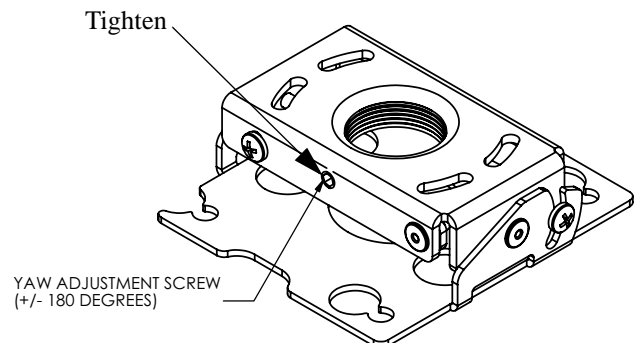

Figure 3. Tighten Set Screw
2. Using Allen wrench provided, tighten the set screw to lock the Universal Ceiling Projector Mount in position (see Figure 3).